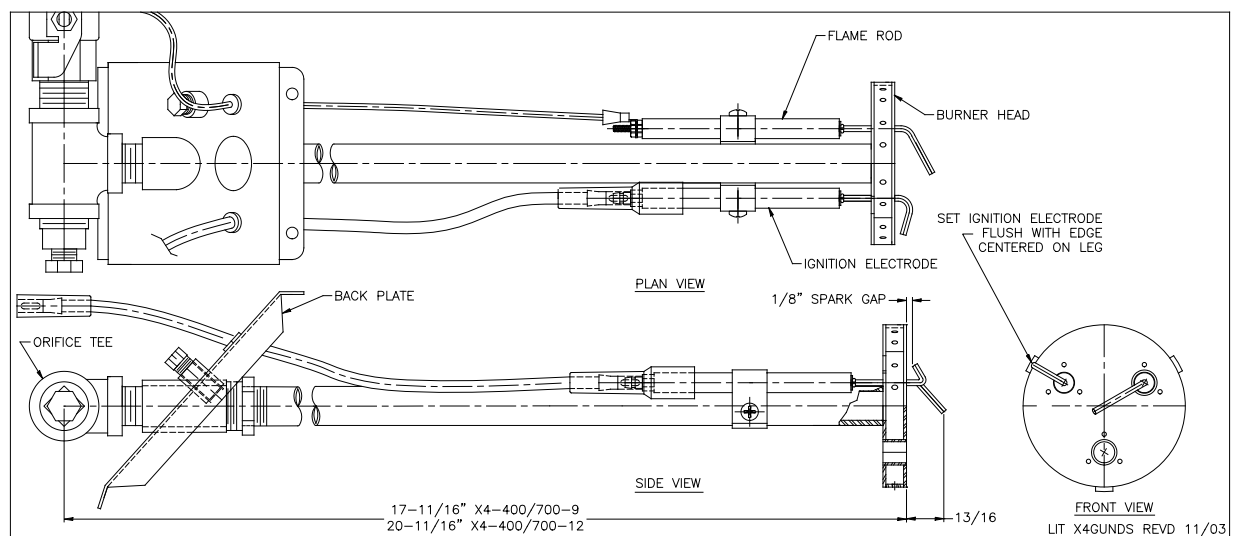

Figure 9: Detail Direct Spark Gun Assembly
7.13.1 Before attempting burner start up, make certain that you are familiar with the operation of the Primary Safety Control and other components being used on this specific application. **Refer to Figure 9** to verify the correct position of the ignition electrode placement since shipment may have altered the placement.